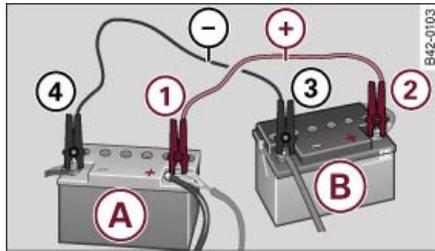

Fig. 131 Jump-starting with the battery of another vehicle: A – Discharged battery, B – Boosting battery
1. Connect one end of the positive lead to the positive terminal ⇒ fig. 131 ① of the discharged battery (A).
2. Connect the other end of the positive lead to the positive terminal ② of the boosting battery (B).
Please note that the described method of connecting the leads is meant for jump-starting your vehicle. If jump-starting another vehicle, you should not connect the negative lead (-) to the negative terminal of the discharged battery ⇒ *page 186*, fig. 131 ④, but directly to the engine block or a solid metal part bolted to the engine block. If the battery of the other vehicle does not have a gas vent, there is a risk that a mixture of oxygen and hydrogen gas can accumulate and cause an explosion. ■